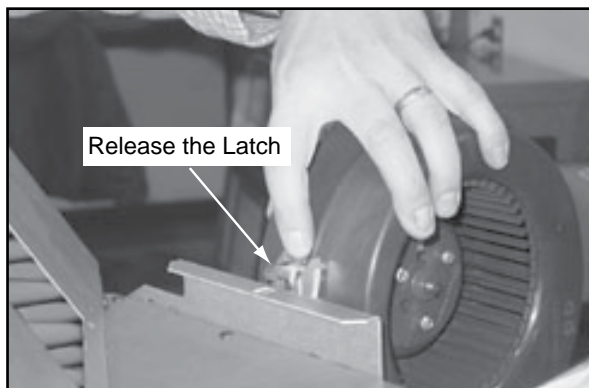

Figure 50.1
3. Locate the convection blower on the bottom left rear of the fireplace. Reach behind the blower and release the latch by pushing the top of the latch towards the blower. **Figure 50.1.**